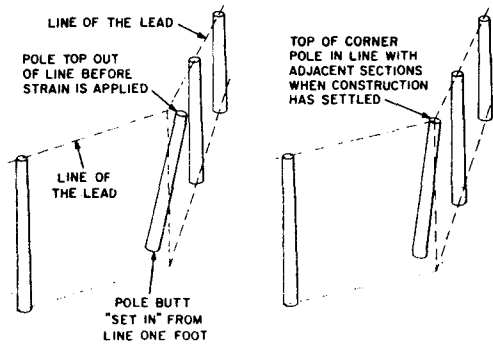

Fig. 2—Unguyed Corner Pole Raked
1.09 Rake of unguyed or ground braced poles or stubs is one foot for all lengths of poles. The pole butt is set in one foot from the line of the lead. The top is set out a sufficient distance so when the line wire or suspension strand is tensioned, the top will come into line as the construction settles. See Fig. 2. In some cases the stabilization of unguyed poles will require heavier class poles and increased depth of setting. Such cases will be detailed by the plant engineer.